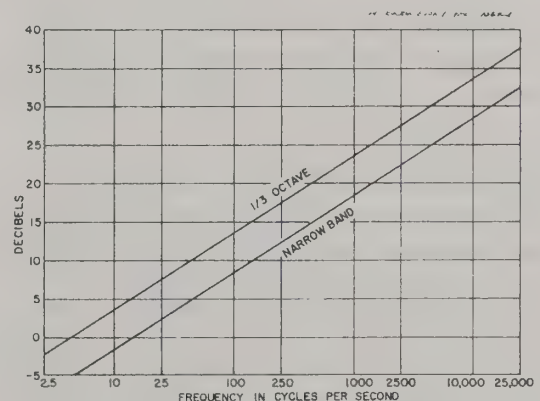

Figure 12. Decibels to Be Subtracted from Type 1564-A Reading to Obtain Spectral-Density Level.
3.3 CONNECTION TO POWER SUPPLY. Connect the Type 1390-B to a source of power as indicated by the legend at the input socket at the rear of the instrument, using the power cord provided. While instruments are normally supplied for 115-volt operation, the power transformer can be reconnected for 230-volt service (see schematic diagram, Figure 12). When changing connections, be sure to replace line fuses with those of current rating for the new input voltage (refer to Parts List). Appropriate measures should be taken so that the legend indicates the new input voltage. On instruments changed from 230 to 115 volts, this simply means removal of the 230-v nameplate; a 115-v legend is marked beneath. For instruments changed to 230 volts, a nameplate (Type 5590-1664) may be ordered from General Radio.
The effective bandwidth of the Type 1564-A Sound and Vibration Analyzer increases with increase in the frequency to which the analyzer is tuned. The graph in Figure 12 shows the value in decibels that must be subtracted from the reading of the analyzer to obtain the spectral-density level. This value is determined on the basis of initial calibration of the instrument by a sine-wave signal.